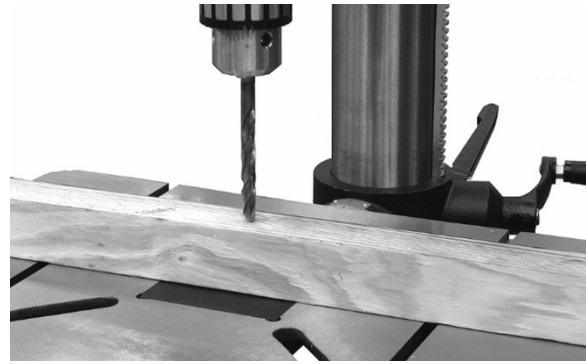

Figure 10-33
2. Use down-feed handles to lower the bit until it just contacts the top surface of workpiece, as shown in Figure 10-33.